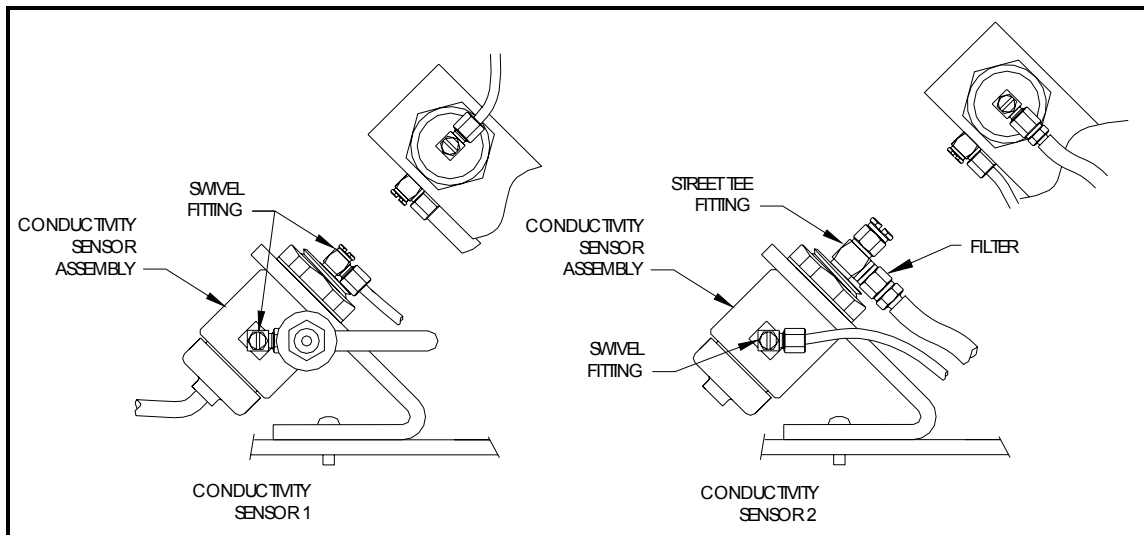

Figure 7. Conductivity/Temperature Sensor Assembly
5. Carefully remove the conductivity sensor assembly from the base plate by removing the two Phillips screws that secure the bracket to the base. See Figure 7.
8. **Caution: Do not allow any kinks in tubing.** Reconnect the tubing to the new conductivity sensor (P/N 58091511) by screwing the fittings into the top and side of the sensor. If necessary, loosen the sensor retaining nut to adjust the orientation of the fittings as shown in Figure 7.
2. Disconnect the feed water lines from the regulator on "Sample Inlet". See Figure 7 in Section 7.